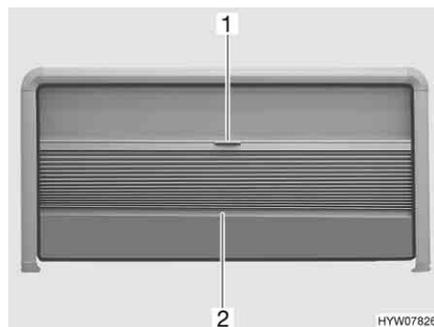

Fig. 69 Hinged window
- Hold the Roman shade in the centre of the bottom rod (Fig. 69,2) and carefully draw it downwards.
- Hold the bottom rod (Fig. 69,2) of the Roman shade in the centre and carefully slide the Roman shade upwards.
- Pull insect screen at the handle (Fig. 69,1) downwards.
- Move insect screen at the handle (Fig. 69,1) fully upwards.